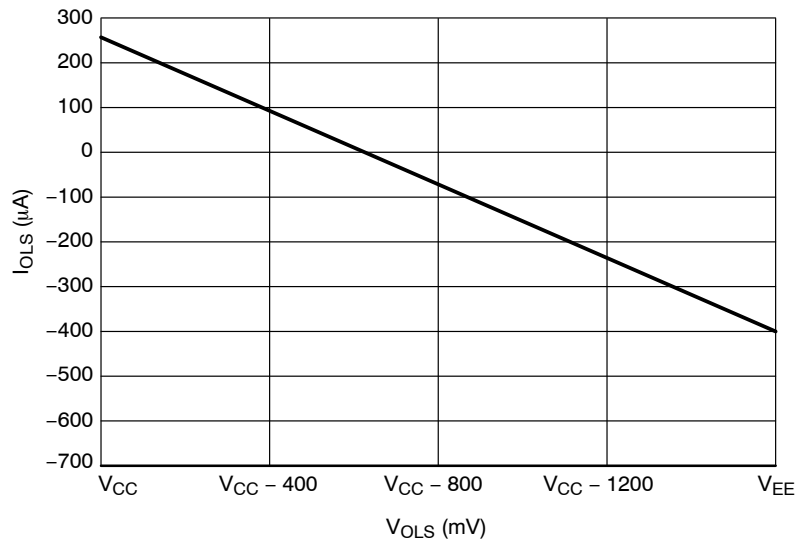

**Figure 10. Duty Cycle % vs. Input Frequency ( $f_{in}$ )**
29. See Figure 10. Duty Cycle % vs. Frequency.
33. See Figure 10. Duty Cycle % vs. Frequency.